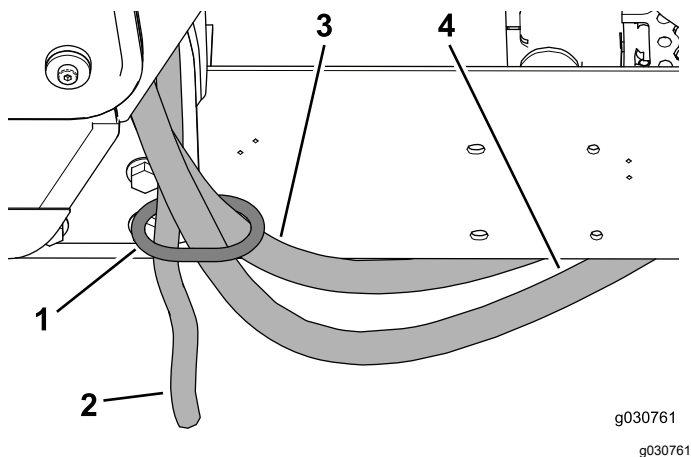

Figure 35
4. Route the hoses for the heater and the drain hose through the hose ring on the rear cab mount (Figure 35).